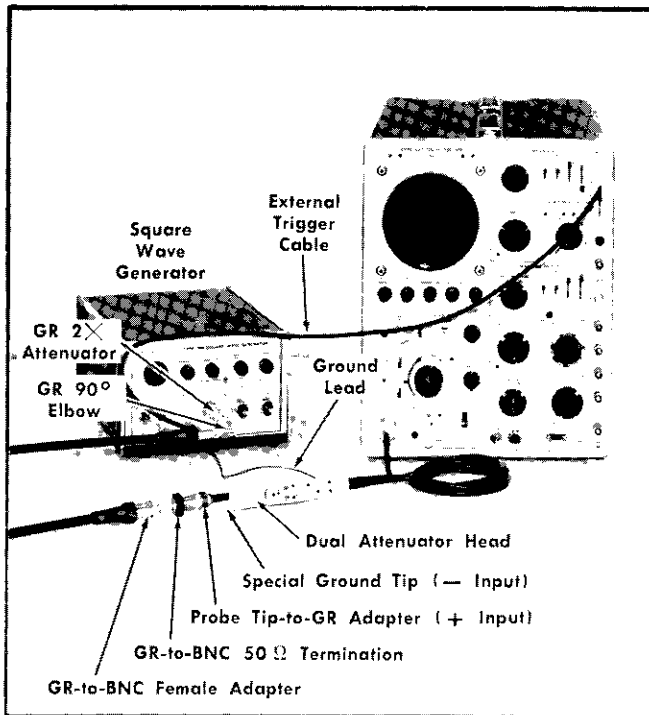

Fig. 6-14. Equipment initial setup for DC shift and overdrive recovery checks, step 8.
- a. The preliminary control settings apply. The equipment setup appears in Fig. 6-14.